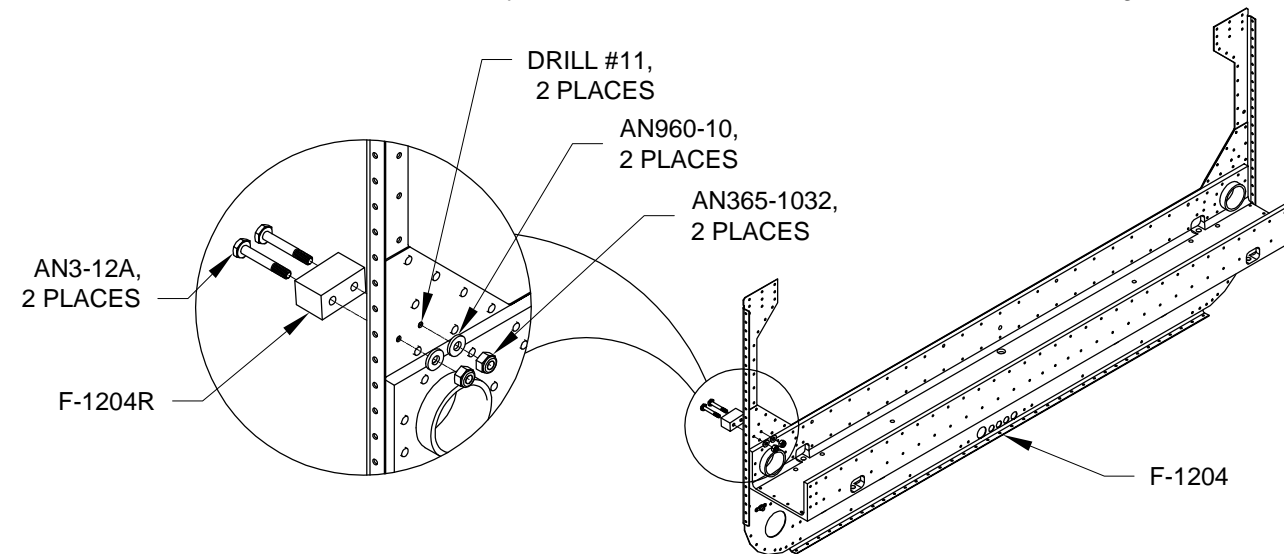

FIGURE 3: INSTALLING THE RETAINER BLOCK IN CENTER SECTION
Step 3: Final-Drill the F-1204 Center Section Assembly and install the F-1204R Retainer Block as shown in Figure 3.